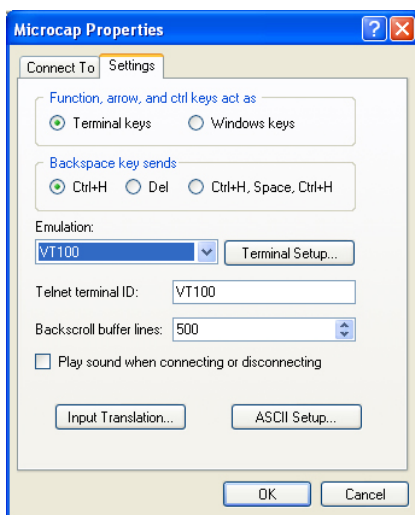

Figure 14. Properties
9. From the *File* menu select *Properties*. The Properties dialog box (seen in Figure 14. Properties, below) is displayed.
10. Select the *Settings* tab and copy the information as it appears in Figure 14. Properties, above.
12. Enter the information as it appears in the ASCII Setup dialog box above. Click OK to return to the Properties dialog box (seen in Figure 14. Properties on page 34).
14. Select the *Shift JIS* radio button and click *OK* to return to the Properties dialog box (seen in Figure 14. Properties on page 34).
15. Copy the information as it appears in the Terminal Settings dialog box above and click OK to return to the Properties dialog box (seen in Figure 14. Properties on page 34).